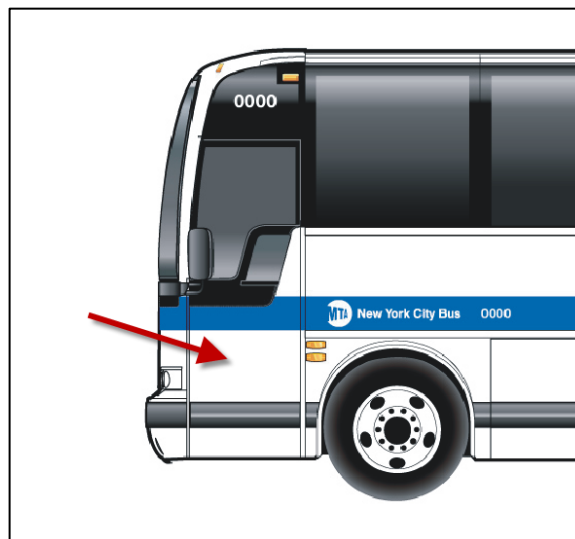

Figure 1
1. Locate the electrical front service compartment (Figure 1).